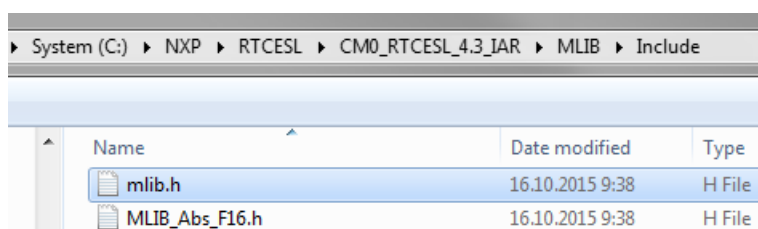

Figure 1-42. Add Files dialog
5. Navigate into the library installation folder C:\NXP\RTCESL\CM0_RTCESEL_4.6_IAR\MLIB\Include, and select the *mlib.h* file. (If the file does not appear, set the file-type filter to Source Files.) Click Open. See Figure 1-42.